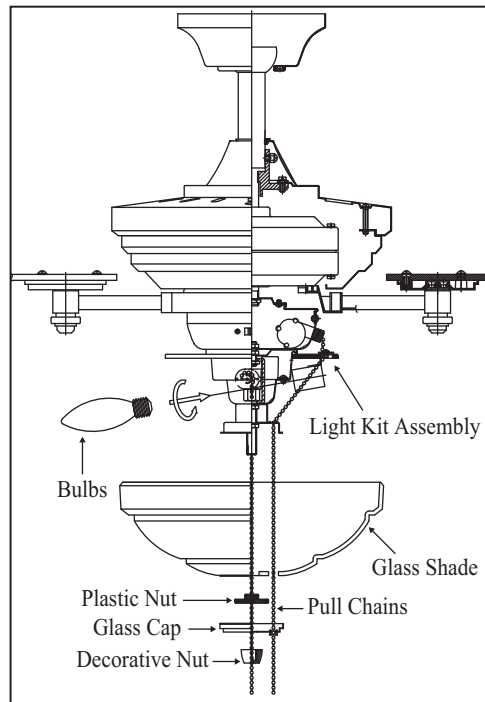

Figure 17
5. Remove the decorative nut, glass cap and plastic nut from the light kit stem. Raise the glass shade up against the mounting plate and secure it with the plastic nut. Do not overtighten. Place the glass cap over the light kit stem and secure it with the decorative nut. (Fig. 17)
6. Insert the 2 pull chain through the eyelet in the shade and cap. Secure the glass cap and decorative nut provided (Fig. 17).